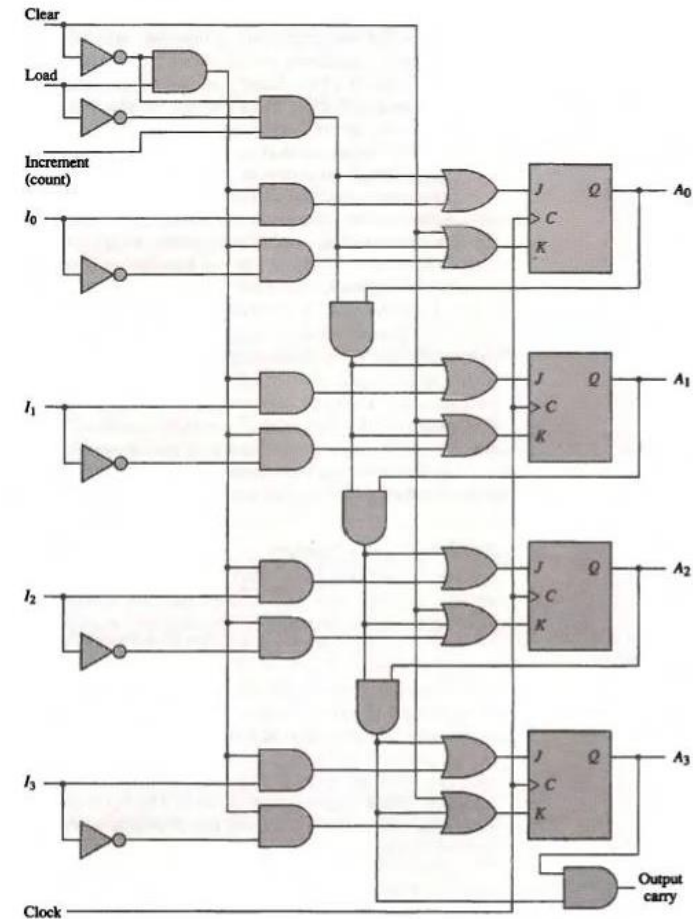

Figure 2-11 4-bit binary counter with parallel load and synchronous clear.
- Fig. 2-11 : Register (*p. 59*)
- Fig. 2-11 : Register (p. 59)
- **Fig. 2-11 : Register** (*p. 59*)